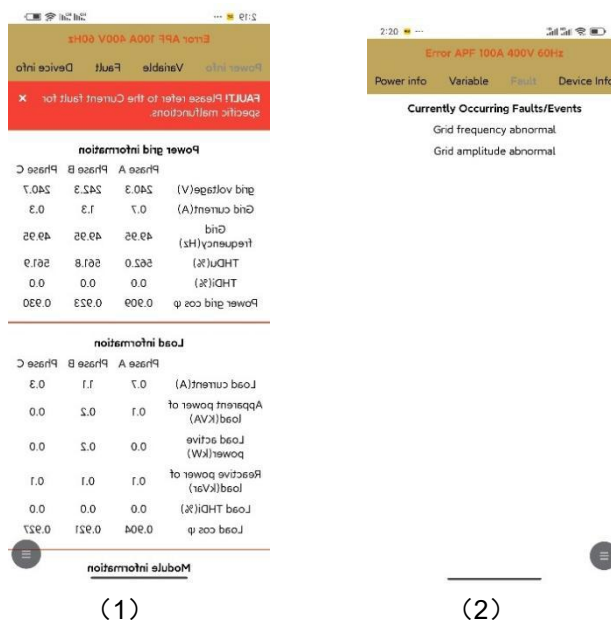

Figure 12 Check the Current Fault
1. When the equipment malfunctions, a red alarm symbol will appear at the top of the interface, as shown in Figure 12(1). After the user clicks to view the current fault, the alarm symbol will disappear.
2. The current fault will record the current equipment malfunction, as shown in Figure 12(2).